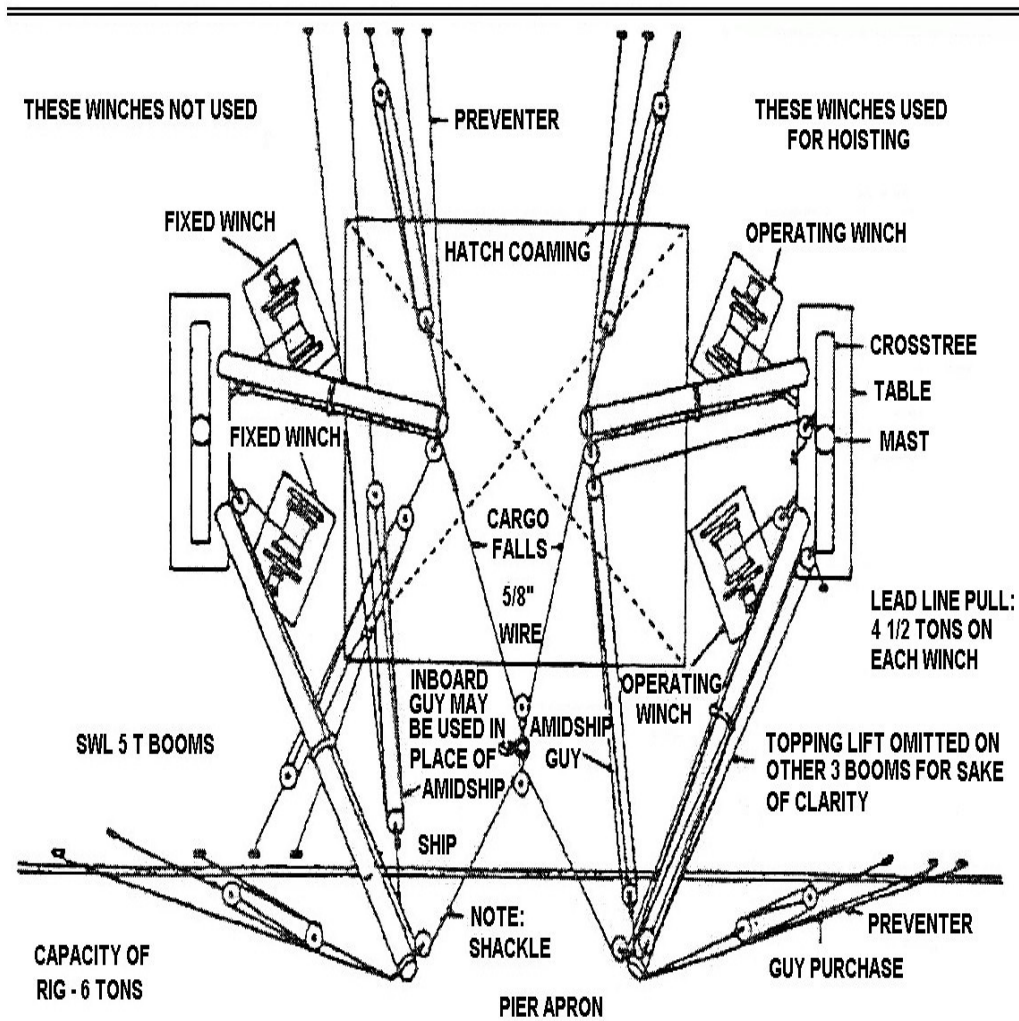

Figure 3-154
1. Direct the hatch gang to reeve the runner of the forward amidship boom through a 12- or 14-inch block and shackle eye-to-eye with the runner of the after amidship boom (see Figure 3-154).